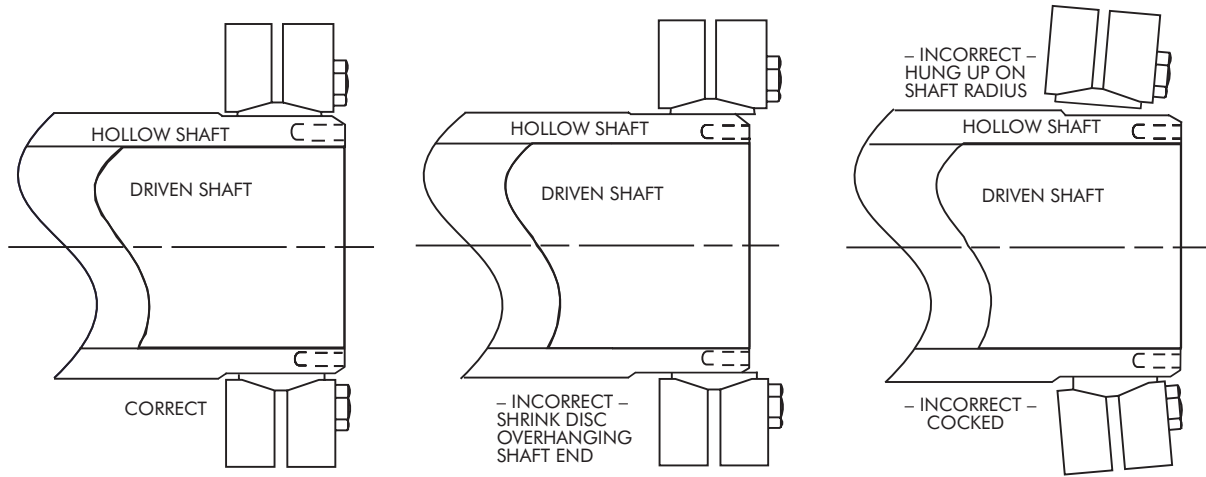

Figure 2 – SHRINK DISC LOCATION
1. Clean hollow shaft OD and shrink disc inner ring bore. Lightly lubricate hollow shaft OD with light mineral oil. Slide shrink disc onto shaft to its proper position (Figure 2, Page 2). Be certain that inner edge of shrink disc inner ring is not hung up on a shaft radius. Hand tighten three or four locking screws equally spaced around flange while maintaining outer collars parallel. Hand tighten remaining fasteners.